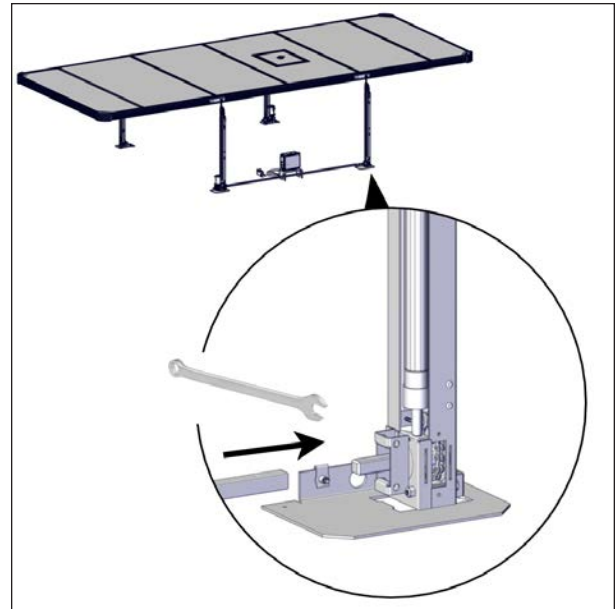

FIGURE 79: DRIVE SHAFT INSTALLATION ON THE NON-MOTOR SIDE
- On the same spa side, install the drive shaft onto the non-motorized jack's shaft see Figure 79.
If drive shaft does not line up with non-motorized jack's shaft, the use of a 3/4" (19 mm) wrench or adjustable wrench can help. Slightly rotate the shaft as shown in Figure 79.